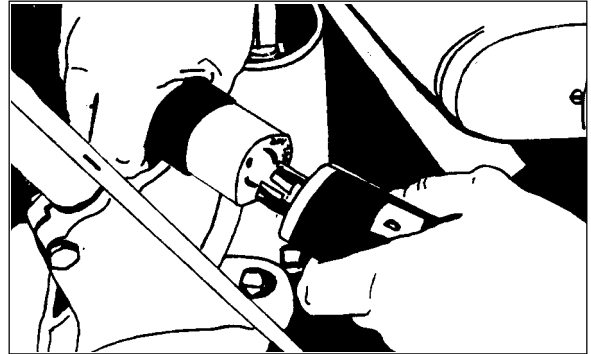

Figure 1
2. Disconnect the handle plug connection. See figure 1.